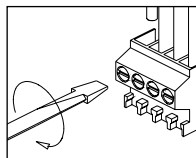

Figure 3
3. Make the connections to the VCS-2D. Locate the connectors for the VCS-2D (remove them if they are plugged in). Next, strip 1/4" of insulation from the end of each wire. Tightly twist the end of each wire until there are no frayed ends. Insert each wire into the appropriate hole on the removable connector blocks; secure the wiring to the connectors by tightening the small connector screws. Be certain that proper phasing is observed—connect the positive terminals on the VCS-2D to the positive terminals on the amplifier and speakers; the negative terminals on the VCS-2D to the negative terminals on the amplifier and speakers. See (Figures 3 and 4).